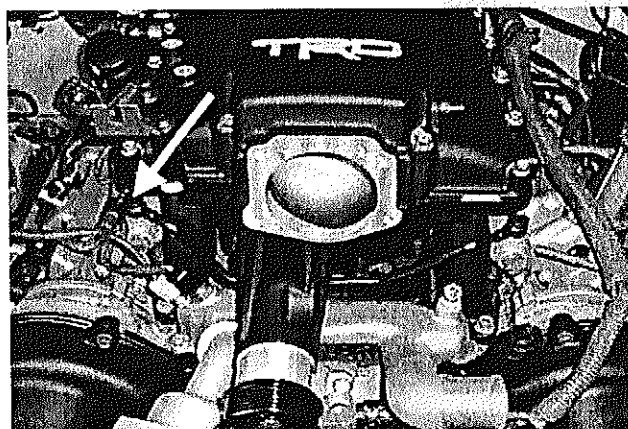

Figure 31
19. Connect the TRD front fuel pipe to the passenger's-side fuel delivery pipe by using the factory banjo bolt and the TRD gaskets (Figure 31). Finger-tighten the banjo bolt at this time.